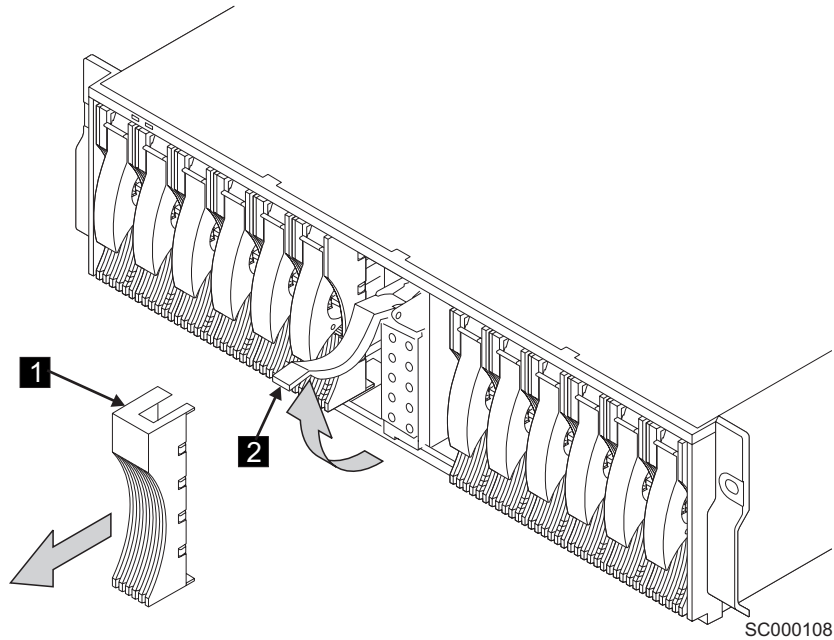

Figure 53. Removing the SCSI bridge card assembly cover
3. Squeeze each of the four lugs on the cover **1**, then remove the cover as Figure 53 shows.